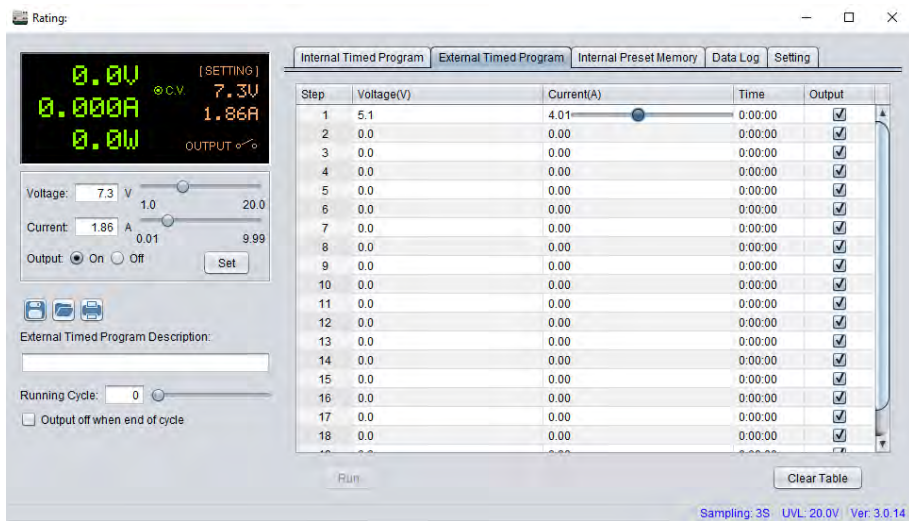

Figure 7.21
2. Double-click on the desired cell and use the slider to set voltage and current values. Figure 7.21